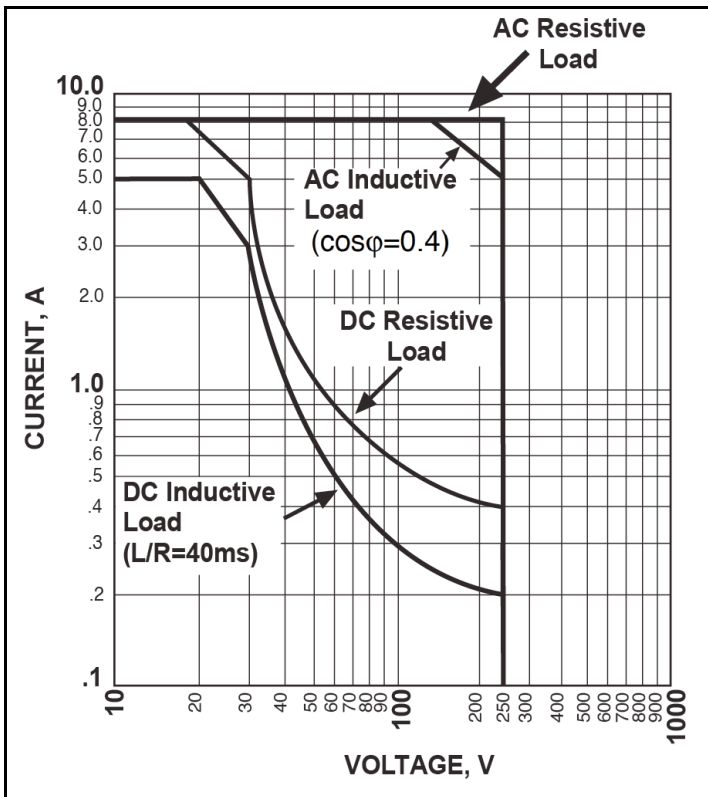

FIGURE 14. Trip Relay Maximum Switching Capacity.
- d) Verify proper reaction of the circuit-interrupting device in response to a simulated or controlled ground-fault current. To simulate ground-fault current, use CT-primary current injection. Fig. 14 shows a test circuit using Littelfuse Startco Ground-Fault-Relay Test Units. The SE-400 has a programmable output of 0.5 to 9.9 A for a duration of
Added Figs. 14 and 15.